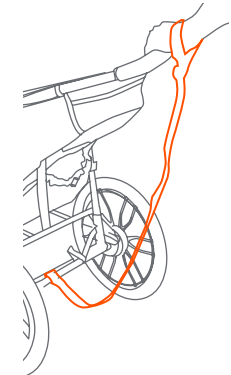

Fig. 19b
- **Safety wrist strap:** Always connect the safety strap to either wrist when jogging. This strap will keep the stroller from rolling away in the event that you trip while running (Fig. 19b).